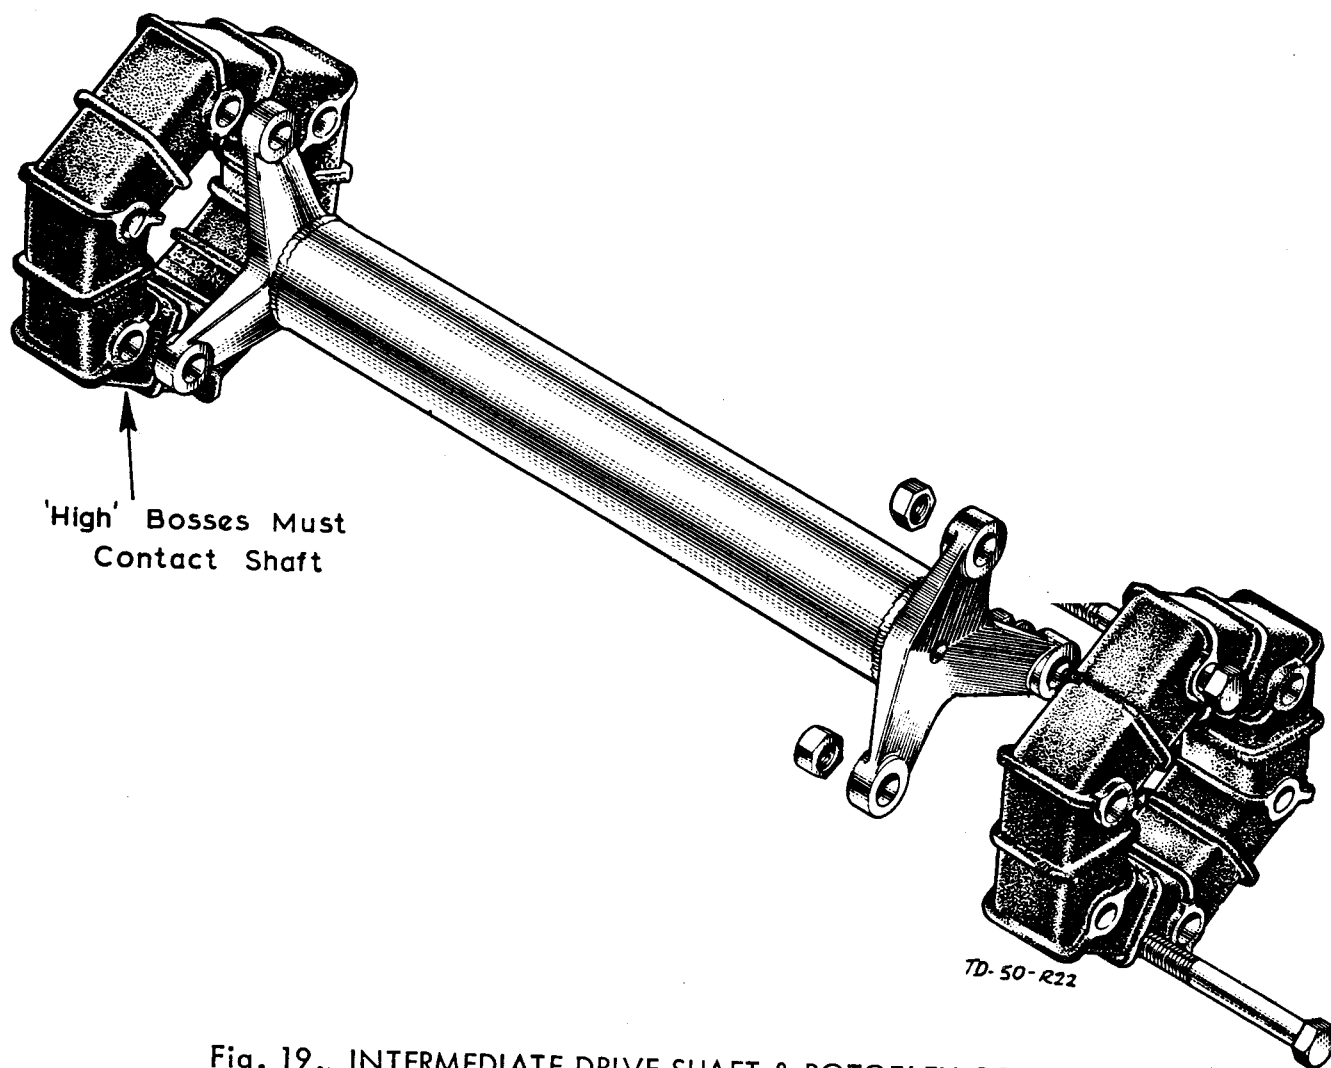

Fig. 19. INTERMEDIATE DRIVE SHAFT & ROTOFLEX COUPLING
2. Inspection of the coupling will show that the metal bosses are offset in the rubber, three each way. Correct fitting is with the three 'high' bosses on each face in contact with the flanges of the drive shaft (Fig 19.). Incorrect fitting will result in the drive shaft overall length being affected with a marked reduction in the life of the coupling. When fitting bolts, their heads **MUST** be in contact with the 'low' bosses in the couplings. The exception to this is the bolts which secure the brake disc and coupling to both the out-board and intermediate drive shafts, when **ALL** bolt heads are towards the wheel.